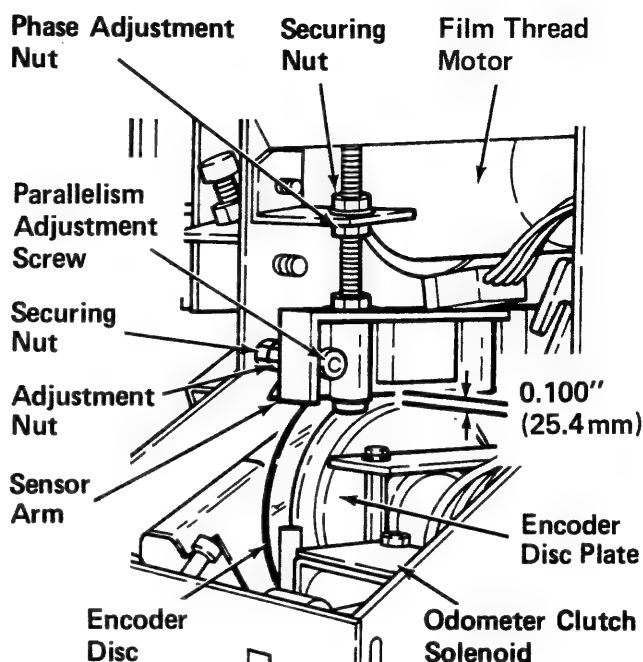
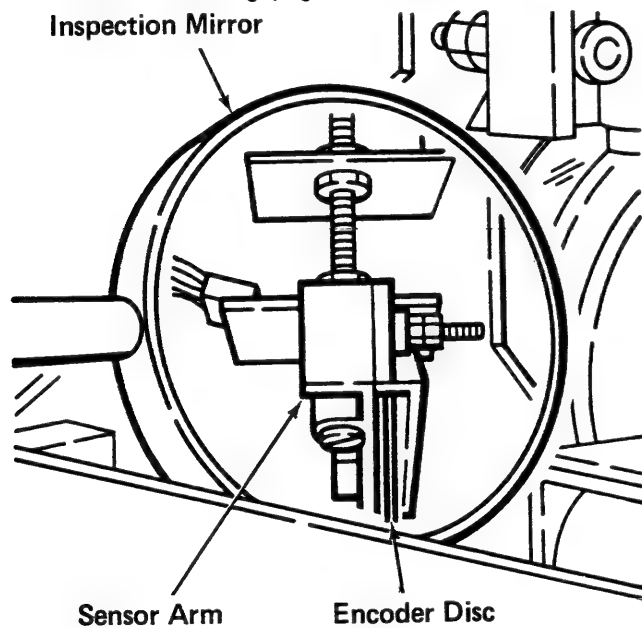
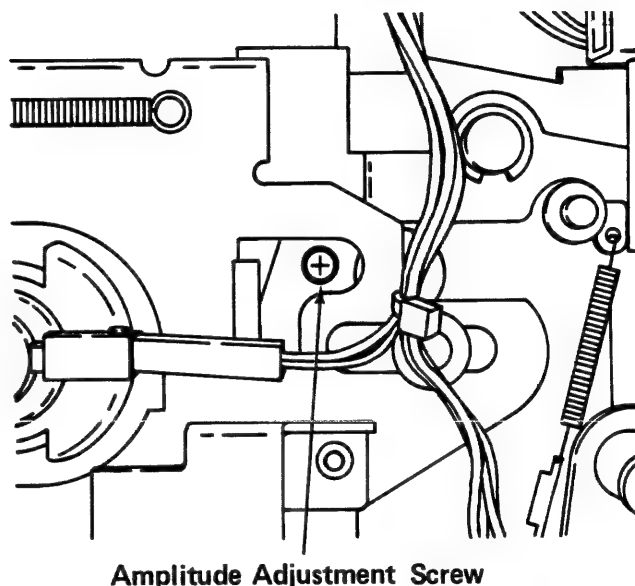
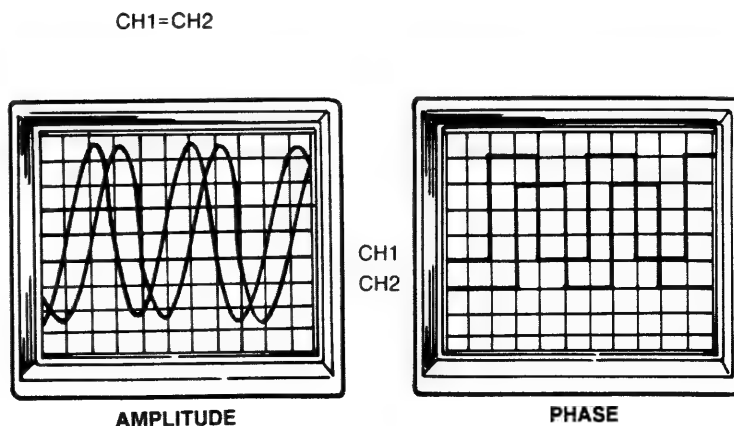

Figure 3-10.6A
Figure 3-10.6B
Figure 3-10.6E
Figure 3-10.6F
does not wobble (Figure 3-10.6A). The Encoder Disk should not touch the odometer sensor.
1. Loosen the Securing Nut for the Phase Adjustment Screw (Figure 3-10.6A).
2. Loosen the Securing Nut for the Parallelism Adjustment Screw and, while holding the Adjustment Nut, turn the Parallelism Adjustment Screw (Figure 3-10.6A) so that the Encoder Disc is parallel with the Odometer Sensor Slot and as close to the rear as possible without touching (Figure 3-10.6B).
4. Press and hold the Reset Button to actuate the Swing Motor (M4) to make the Amplitude Adjustment Screw (Figure 3-10.6E) accessible.
13. While holding the Lock Nut, turn the Amplitude Adjustment Screw, (Figure 3-10.6E) for a greater than 3 Vpp display on the scope (Figure 3-10.6F) and no distortion at top and bottom of sine wave.
4. While holding the Securing Nut, turn the Phase Adjustment Nut (Figure 3-10.6A) for a 90° phase relationship (Figure 3-10.6F).
8. Turn the Film Speed Control fully clockwise. Observe on the scope that the square waves should NEVER be in phase. See Figure 3-10.6F.